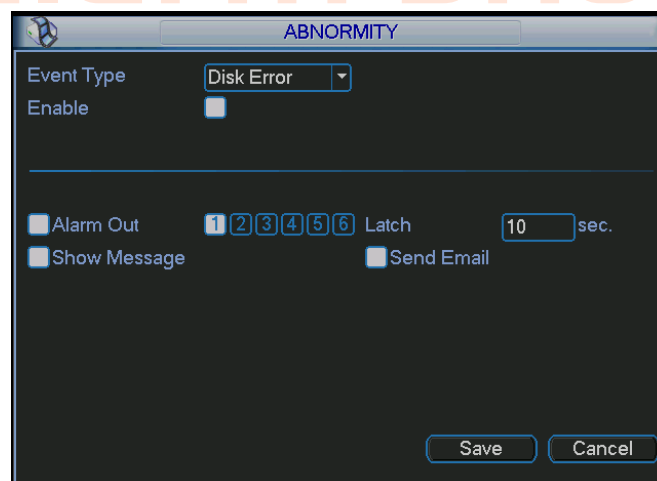

Figure 5-49
- Alarm set: Click alarm set button, the interface is shown as below. See Figure 5-49. (This interface is just like the abnormality setup). Please refer to chapter 5.5.2 for detailed information.